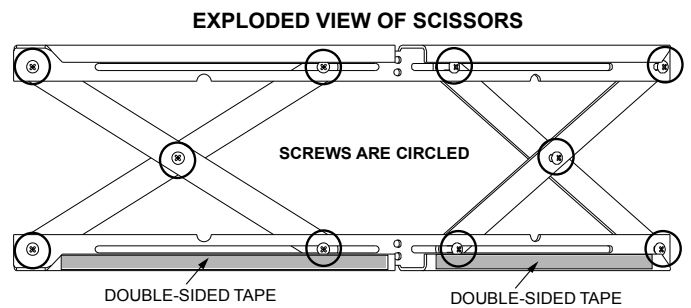

Figure 23.1
1. The 10 screws on each set of scissors will already be loose when shipped (**Figure 23.1**).